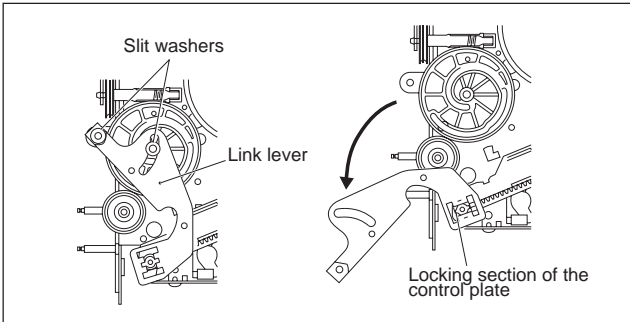

Fig.3-2-13a
- (3) Insert the link lever into the locking section of the control plate. (See Fig.3-2-13a.)
- (4) Rotate the link lever clockwise so that it is installed on the shafts in the center (centre) and on the left of the control cam.
- (5) Fasten the slit washers at these two points.